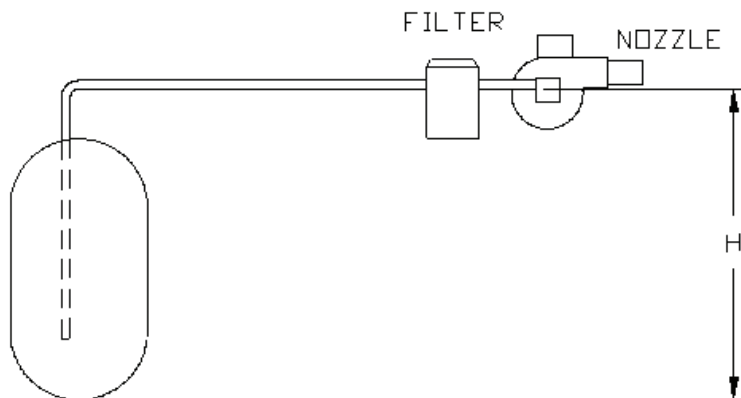

FIGURE 9.2: ONE-PIPE LIFT SYSTEM
- b) ONE-PIPE LIFT SYSTEM (not recommended) - Used when a fuel oil storage tank is located below an oil burner fuel pump. See Figure 9.2. The vertical distance from bottom of the tank to center line of the pump (Dimension 'H') must not exceed that shown in the pump manufacturer's instructions. Although all oil piping systems must be airtight, one-pipe lift systems are particularly susceptible to nuisance lockout problems if the suction line is not completely airtight. A two-pipe lift system is therefore recommended over a one-pipe lift system.